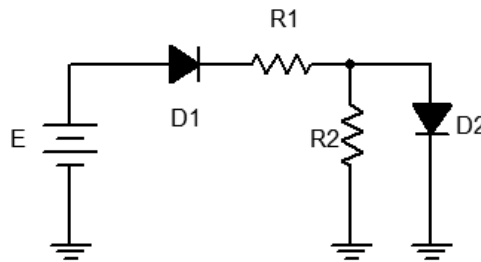

Figure 3
7. Consider the circuit of Figure 3 using $E = 12\text{ volts}$, $R_1 = 10\text{ k}\Omega$ and $R_2 = 4.7\text{ k}\Omega$. Analyze the circuit using the ideal 0.7 volt forward drop approximation and determine the voltages across the two resistors. Record the results in the first two columns of the first row (Variation 1) of Table 3.
8. Build the circuit of Figure 3 using $E = 12\text{ volts}$, $R_1 = 10\text{ k}\Omega$ and $R_2 = 4.7\text{ k}\Omega$. Measure the voltages across the two resistors. Record the results in columns three and four of the first row (Variation 1) of Table 3. Also compute and record the percent deviations in columns four and five.